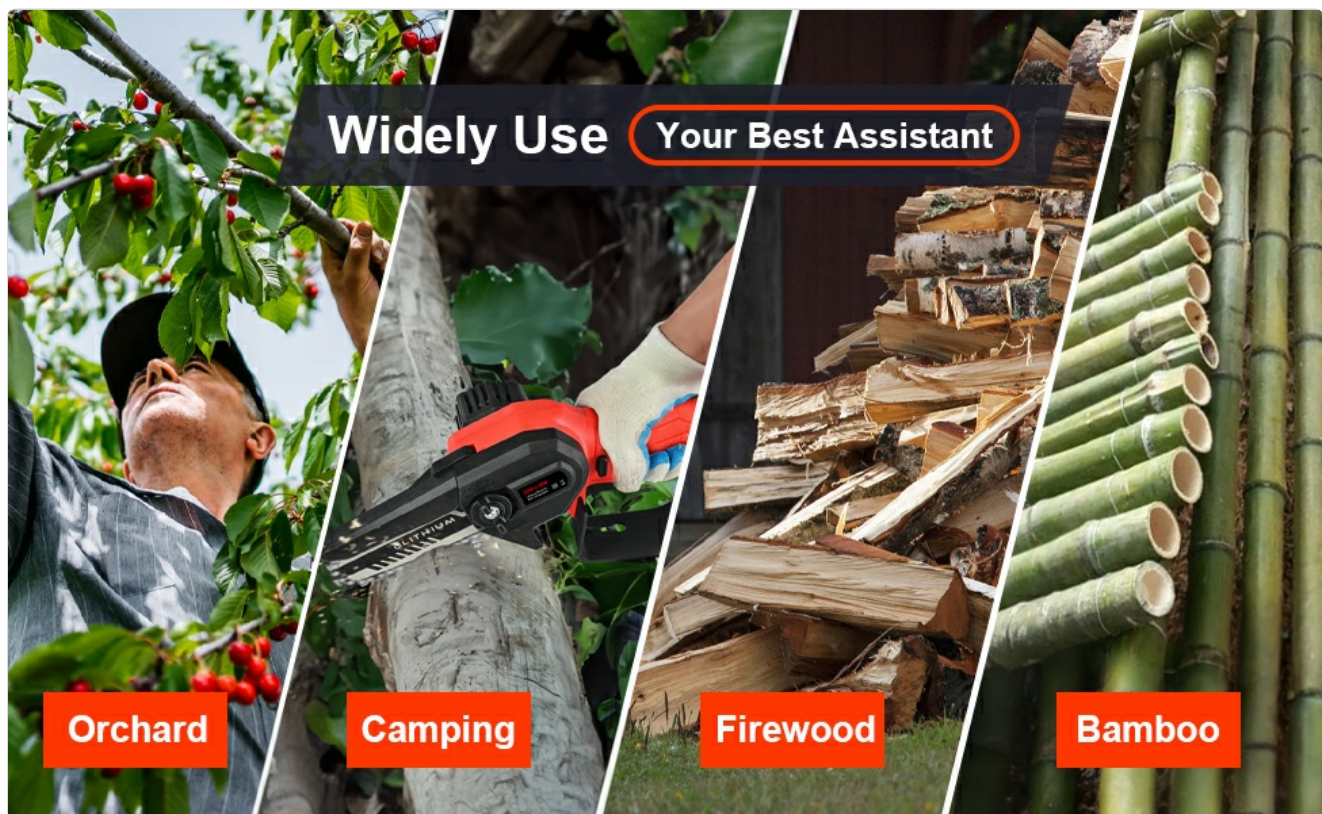

Figure 5.1: Ensure the chain teeth are oriented in the correct cutting direction as indicated by the arrows.
3. Carefully place the chain around the sprocket and guide plate, ensuring the cutting teeth face the correct direction (refer to Figure 5.1).